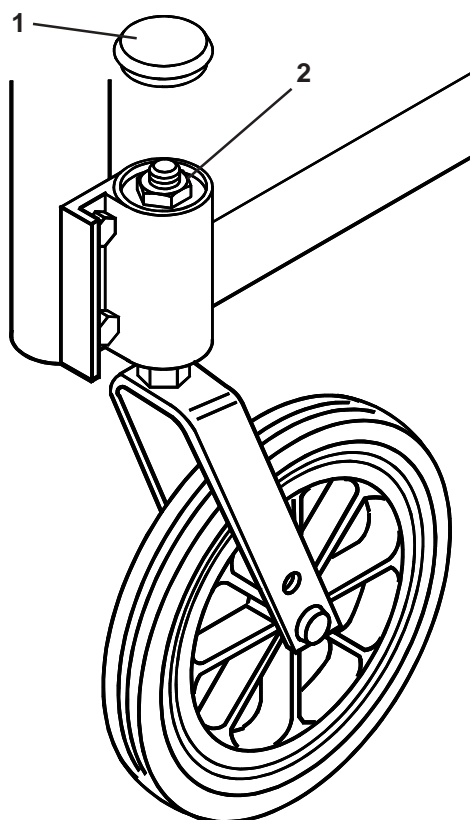

Fig. 43
To remove play from the castor stem (Fig. 43), remove the dust cover (1) by prising it off. Tighten the nut (2) with a 19mm A/F socket spanner until all play is removed, yet still allows the castor fork assembly to rotate freely. Replace the dust cover by snapping it back in place.